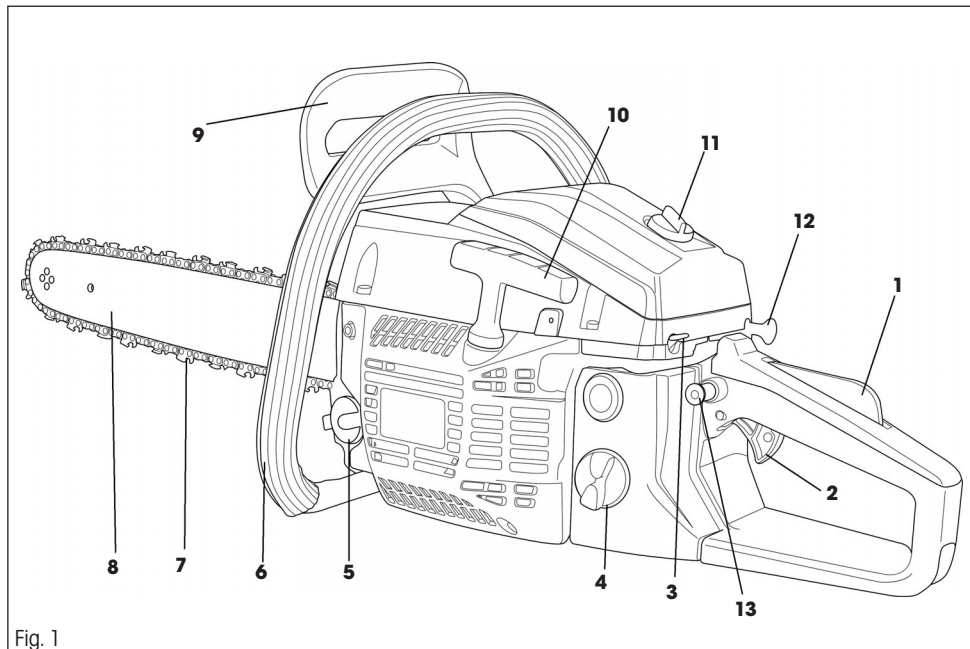

Fig. 1
Description of the power tool (see Fig. 1)
- ✿ The safety brake lever (Fig. 1 point 9) must be disengaged (pull it towards the top handle)
Chain brake (Fig. 1, point 9)
- ✿ Push the brake lever (Fig. 1, point 9) forward. The chain should stop immediately.